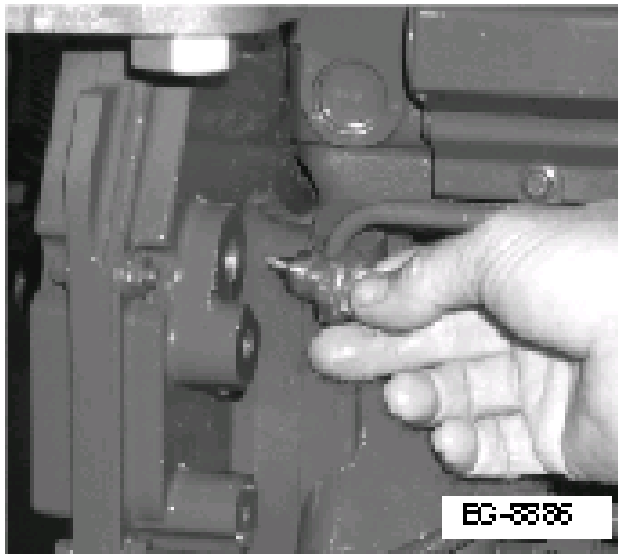

Figure 46 Checking Oil Level in Oil Reservoir
2. Remove EOT sensor from the front cover (See Figure 46, page 85). Oil should pour out. If oil level is low, crank engine and recheck level. If level does not increase, lube oil pump may not be supplying the proper amount of oil to the reservoir. If the oil level was above the EOT sensor, reinstall the sensor and go to the next step.